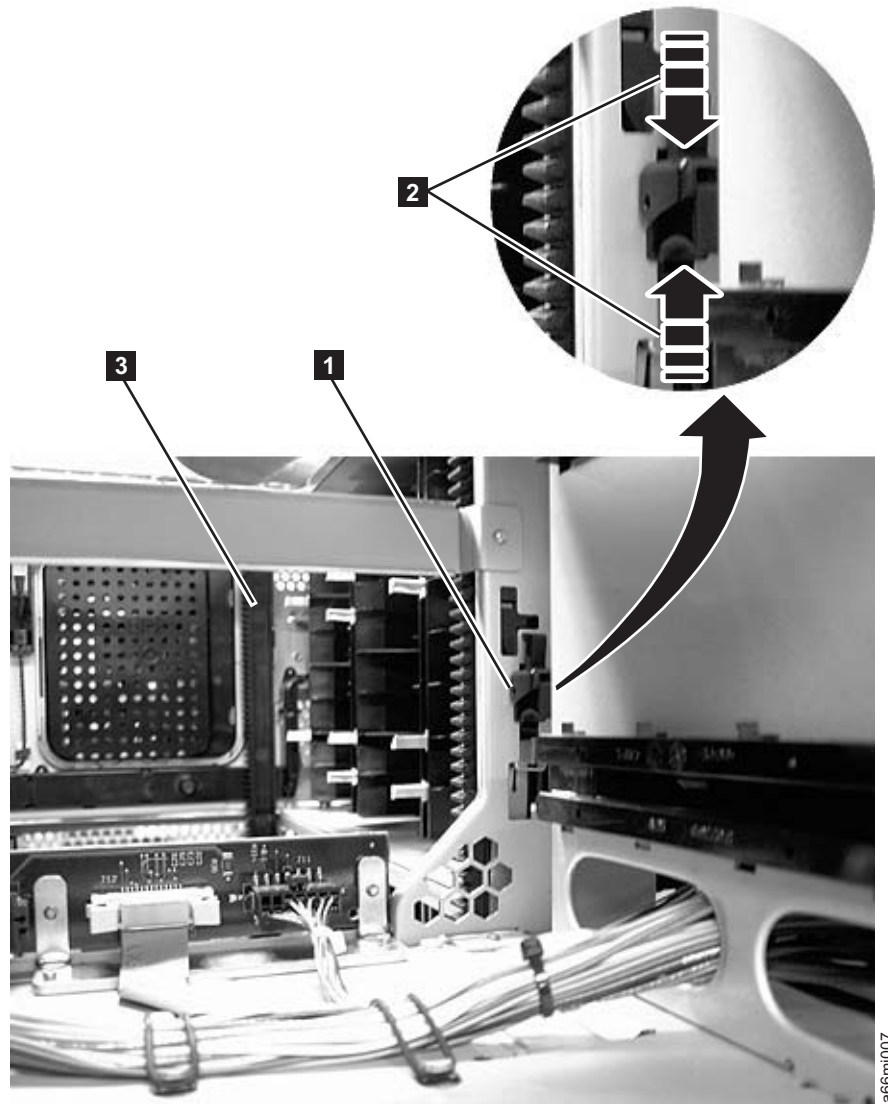

Figure 8-2. Gear racks and gear rack locking mechanism
3. Disengage the rear (**1** in Figure 8-2) and front (**3** in Figure 8-2) gear racks in the control module. While pinching the gear rack locking mechanism (**2** in Figure 8-2) , push the gear rack up until it locks in place.